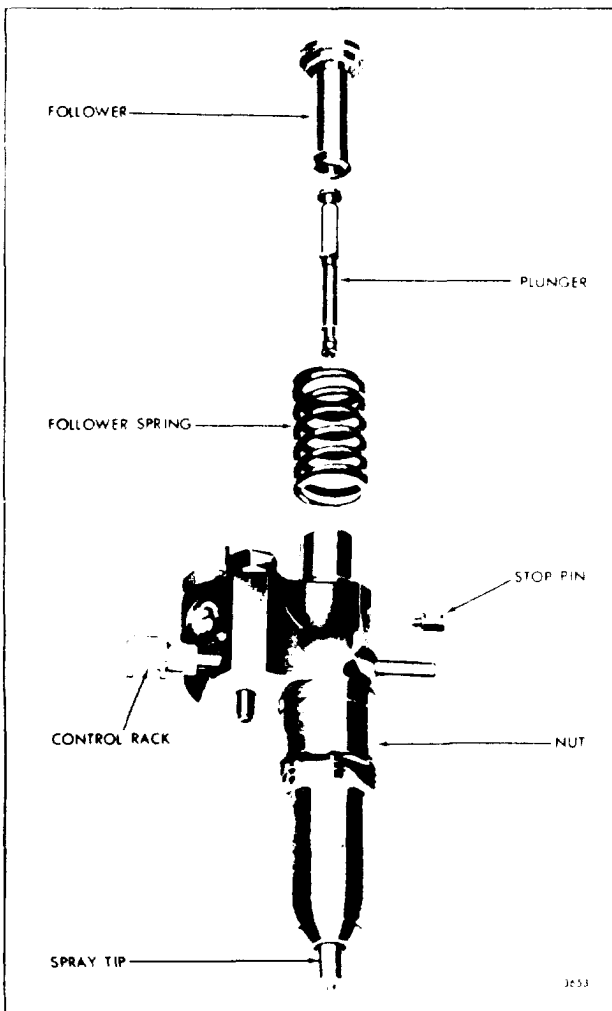

Fig. 37 Injector Plunger, Follower and Relative Location of Parts
1. Refer to Fig. 37 and slide the head of the plunger into the follower.